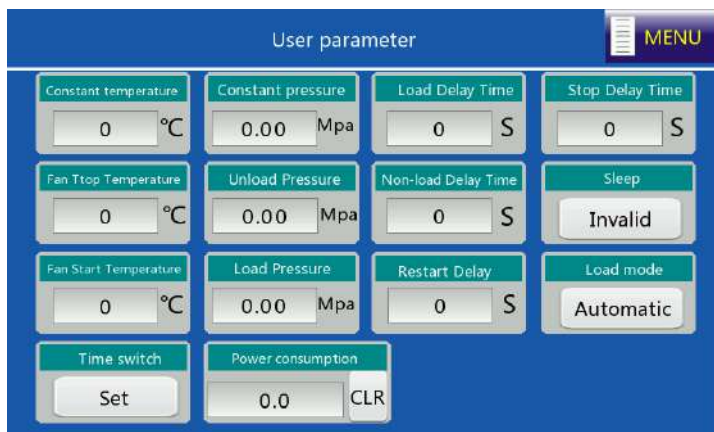

Figure 4-10 User parameter interface
Step 5 Choose **User parameters** in the menu. The interface shown in Figure 4-10 is displayed.